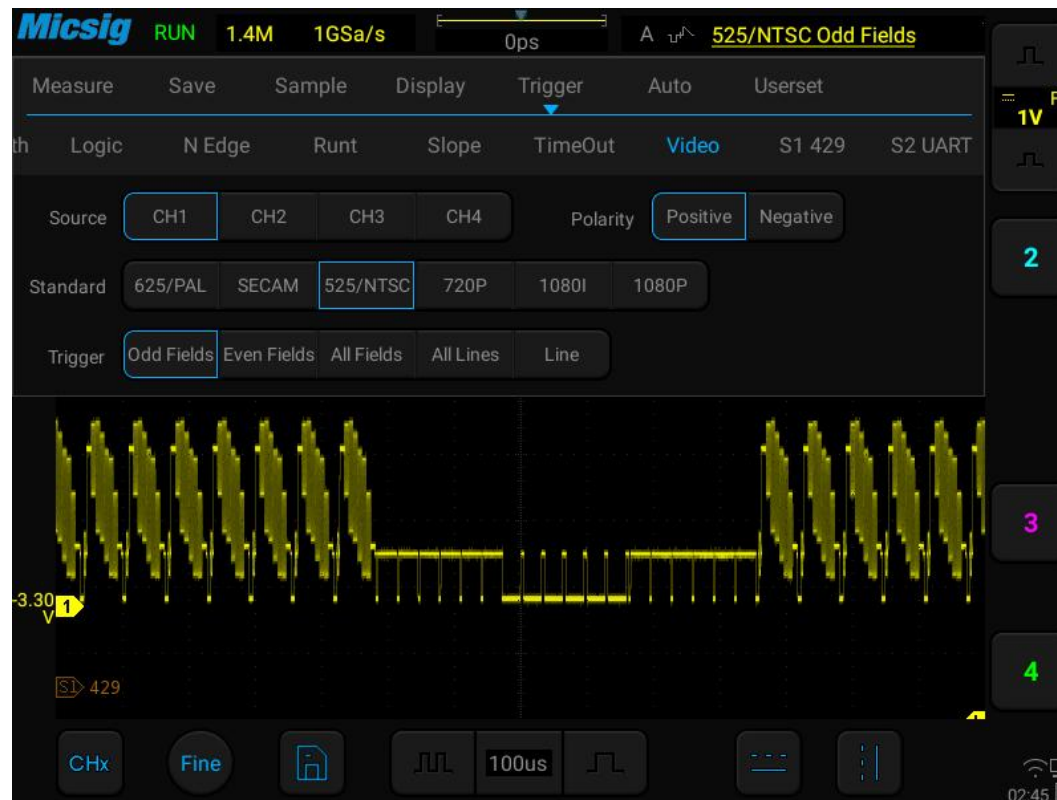

Figure 6-30 Video Trigger
- 1) Tap “Trigger” on the main menu to open the trigger menu, select the video trigger in the trigger type, and set the video trigger as follows, as shown in Figure 6-30: